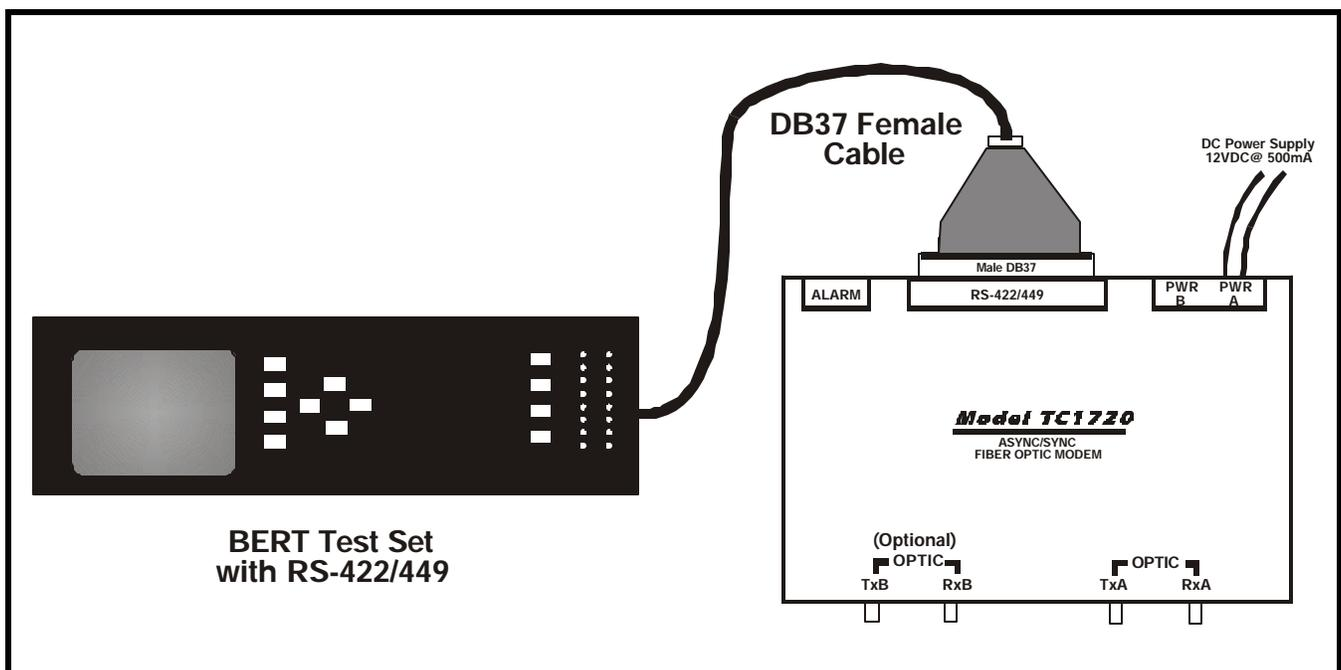

Figure 6. Local Electrical Loopback Test Connection Diagram
1. Set up the bench test as illustrated in Figure 6 below.